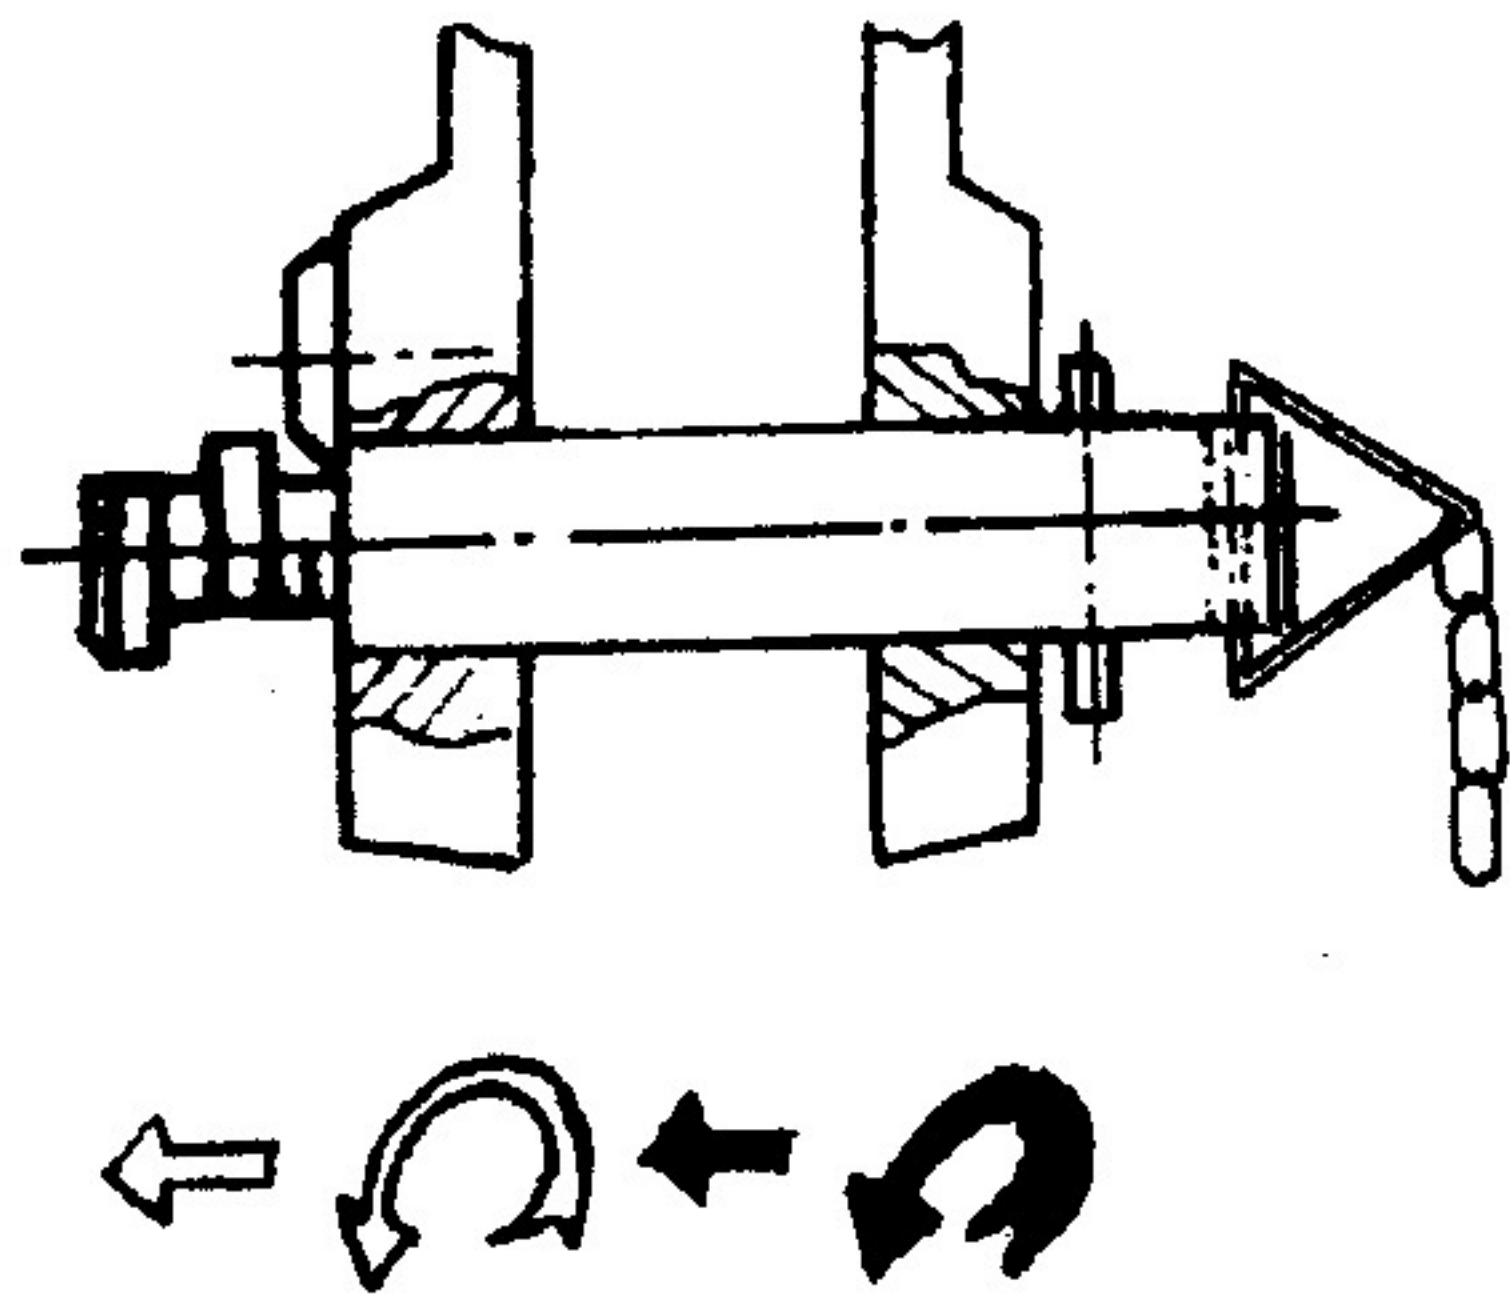

Fig2. Turn and push the fixed axis twice and let it enter the second tunnel
2.Anchor: Fixed axis is to be used to anchor the rope round the hoister.Connect the wire ropeor the hanger with the fixed rope and tie the otherend to the load,masts, etc. There is a relaxation-proofing tunnel on the fixed axix. When the fixed axis is inserted the hoister case ,is must be turned twice to the second tunnel till it is clamped tightly (Fig.2).